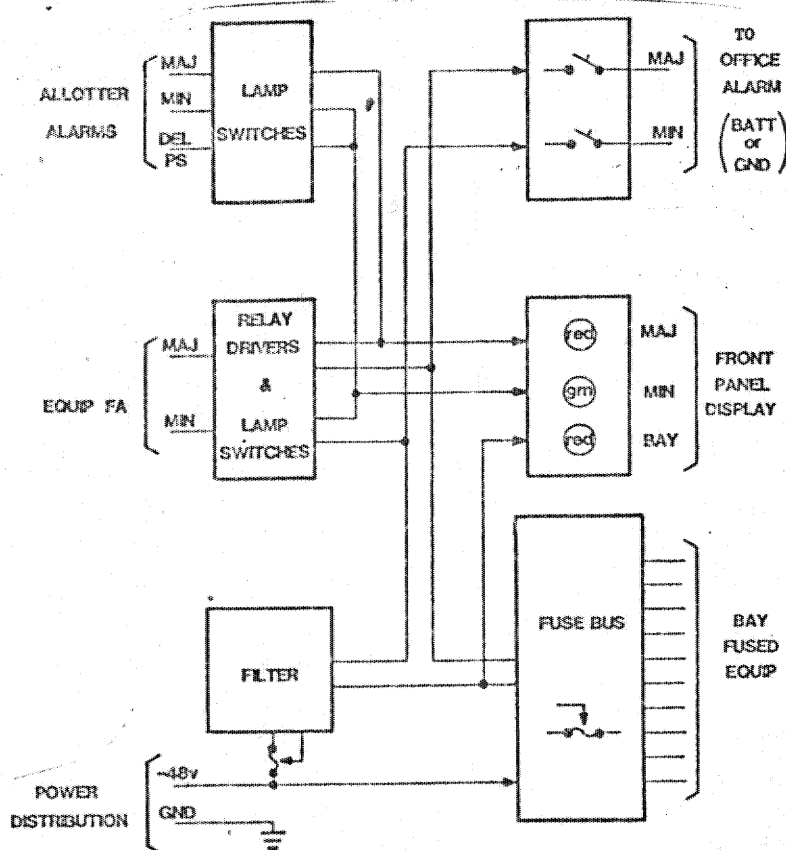

Figure 2. Filtered Fuse Panel Functional Diagram
1.02 Figure 2 is a functional diagram of the Panel showing the logic of the alarm inputs to alarm outputs and displays. As shown, the Allotter Alarm inputs will only light the MAJ and MIN Front Panel lamps and do not affect the Office Alarm outputs. The Equipment FA inputs will affect both the Office Alarm outputs and front panel lamps. The BAY lamp is only turned on by a fuse failure, either the Filter or one or more of the bay fused equipments.